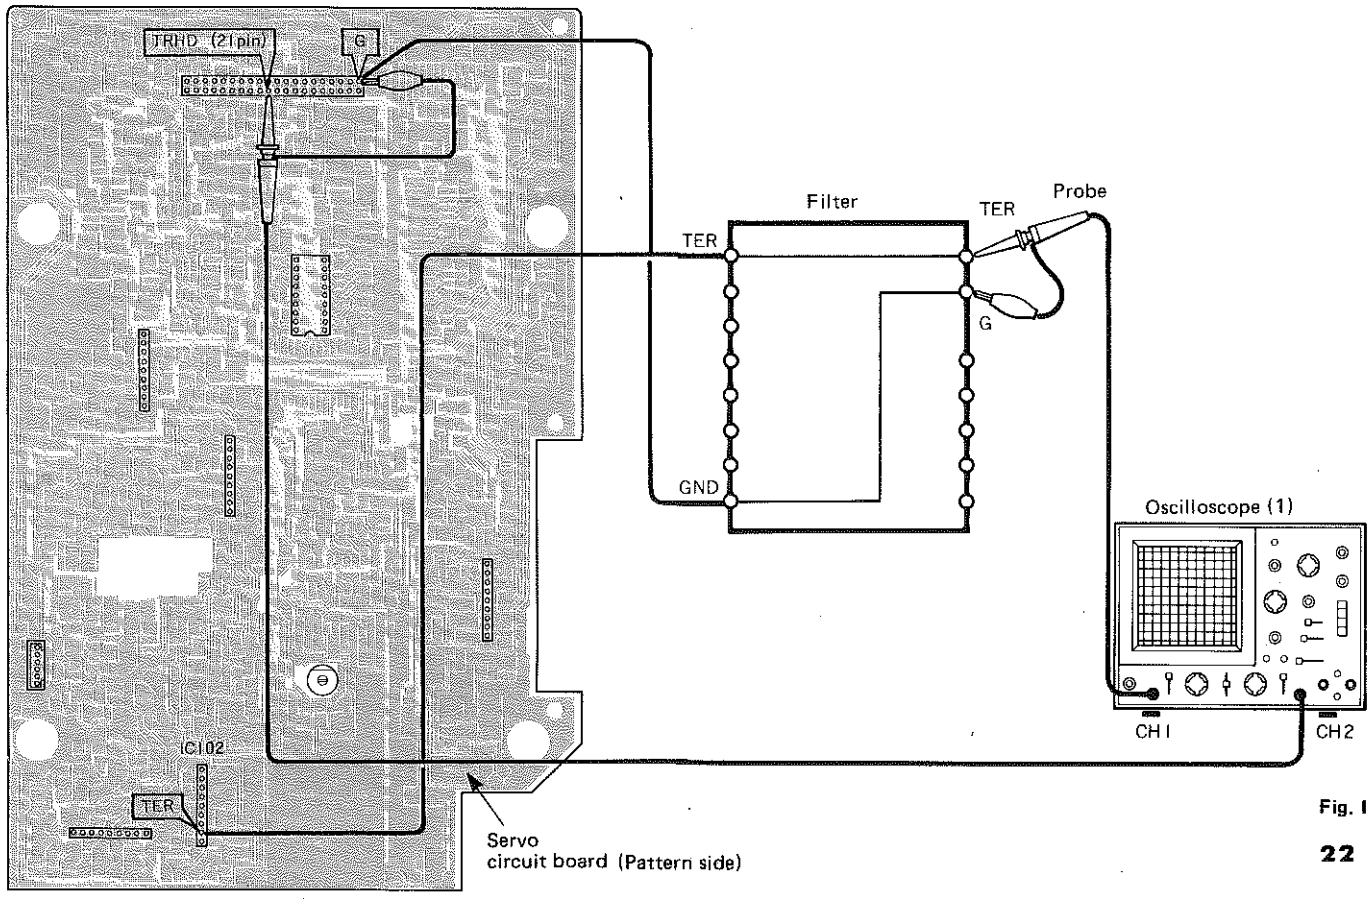

Fig. 1
- ① Connect the filter and measuring instruments as shown in Fig. 1.
- ② Set to the TEST mode.
- ③ Load the disc.
- ④ Press the OPEN//CLOSE key.
- ⑤ Press the PLAY key.